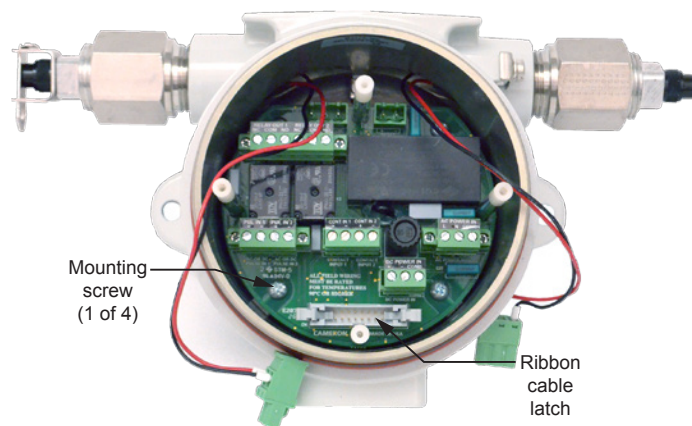

Figure 5.15—Bottom circuit board showing location of mounting screw and ribbon cable latch
5. Disconnect the ribbon cable from the latched connector on the bottom circuit assembly (see Figure 5.15, Page 53) and set the top circuit assembly aside.
7. Unscrew the four mounting screws (Figure 5.15, Page 53) and remove the bottom circuit assembly from the enclosure.